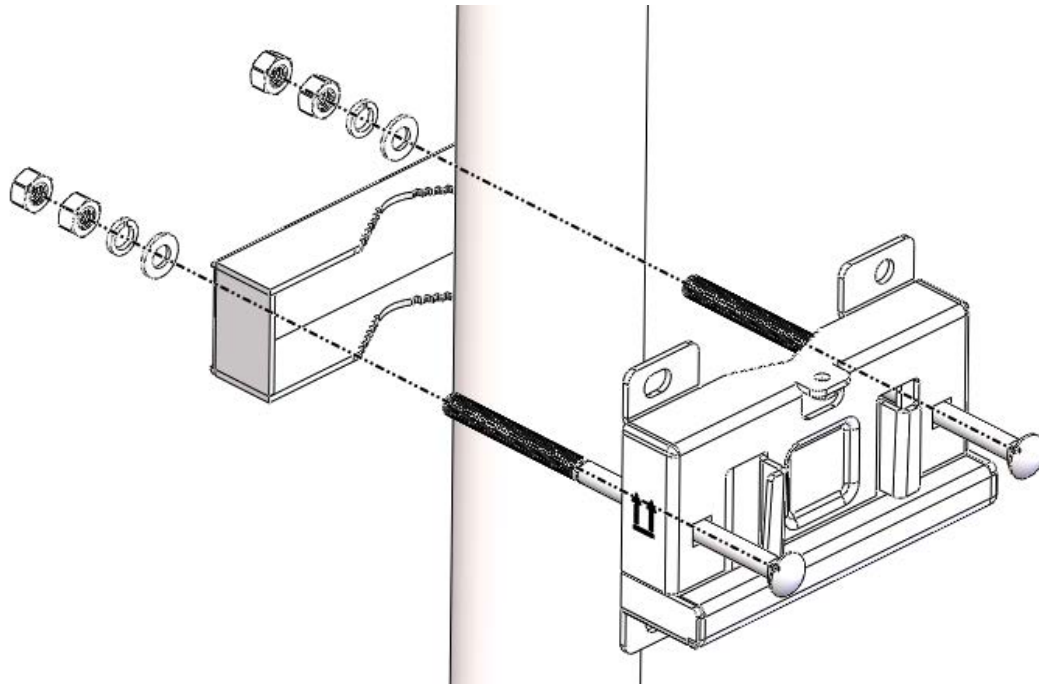

Figure 4-16 Fix the bracket on the rod
1. The Holding pole and Auxiliary Holding pole are installed on the Holding pole and Auxiliary Holding pole by M10X150 bolts, nuts, flat washers, and spring washers, as shown in figure 4-16. The diameter of the Holding pole should be between 40 mm and 120mm and the strength should be sufficient.